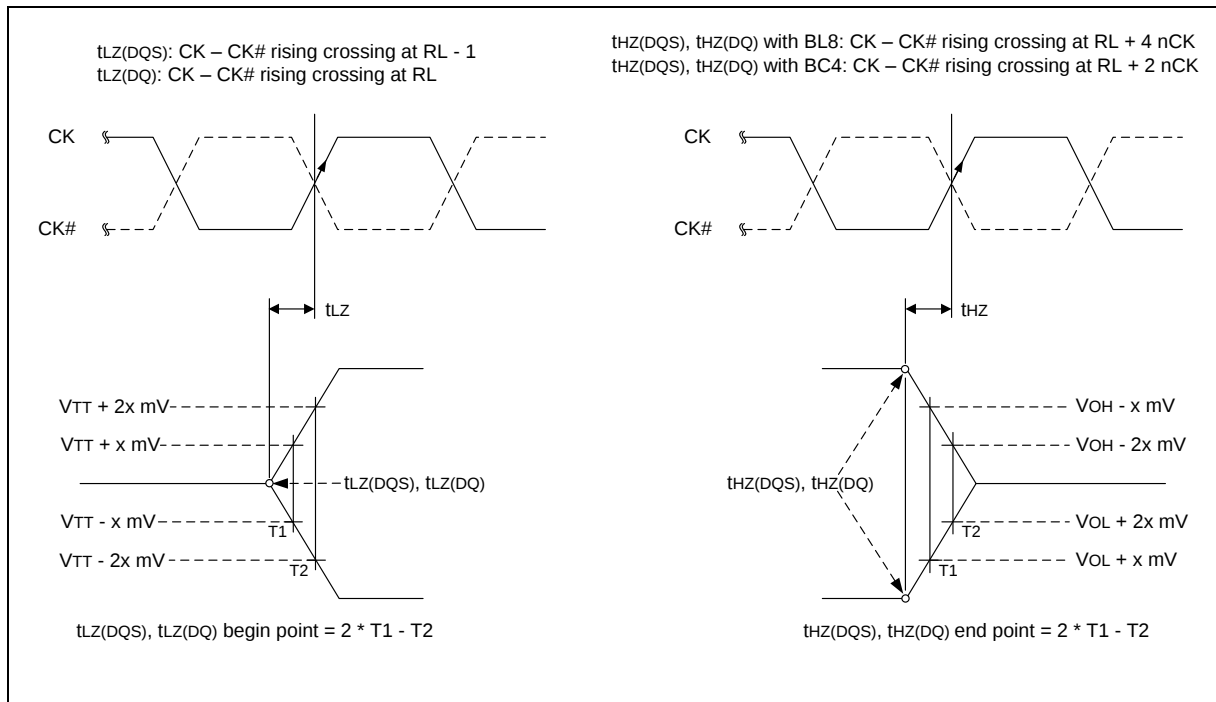

Figure 26 – tLZ and tHZ method for calculating transitions and endpoints
$tLZ(DQS)$, $tHZ(DQS)$ for preamble/postamble (see section 8.13.2.3 and Figure 26).
8.13.2.3 tLZ(DQS), tLZ(DQ), tHZ(DQS), tHZ(DQ) Calculation
tHZ and tLZ transitions occur in the same time window as valid data transitions. These parameters are referenced to a specific voltage level that specifies when the device output is no longer driving tHZ(DQS) and tHZ(DQ), or begins driving tLZ(DQS), tLZ(DQ). Figure 26 shows a method to calculate the point when the device is no longer driving tHZ(DQS) and tHZ(DQ), or begins driving tLZ(DQS), tLZ(DQ), by measuring the signal at two different voltages. The actual voltage measurement points are not critical as long as the calculation is consistent. The parameters tLZ(DQS), tLZ(DQ), tHZ(DQS), and tHZ(DQ) are defined as singled ended.